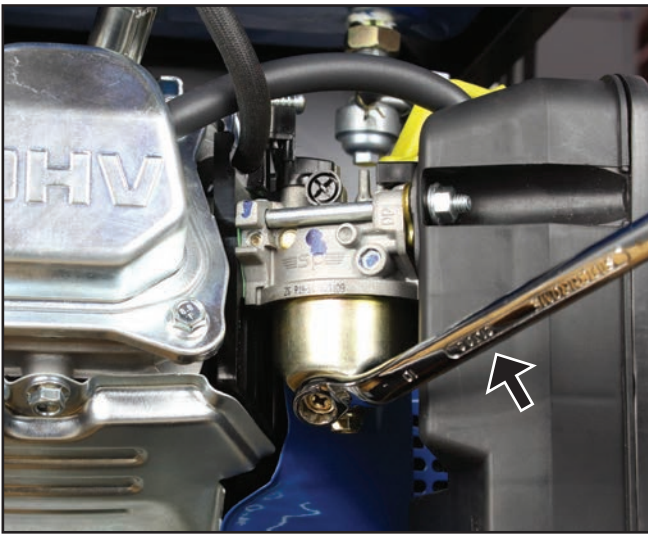

Figure 56 – Removing the Carburettor Drain Screw (WHXC3750 & WHXC3750-PRO)
3. Position the funnel and fuel storage container under the carburettor drain screw and then remove the screw by turning it anti-clockwise with the spanner (see Figure 56 or 57, as appropriate).